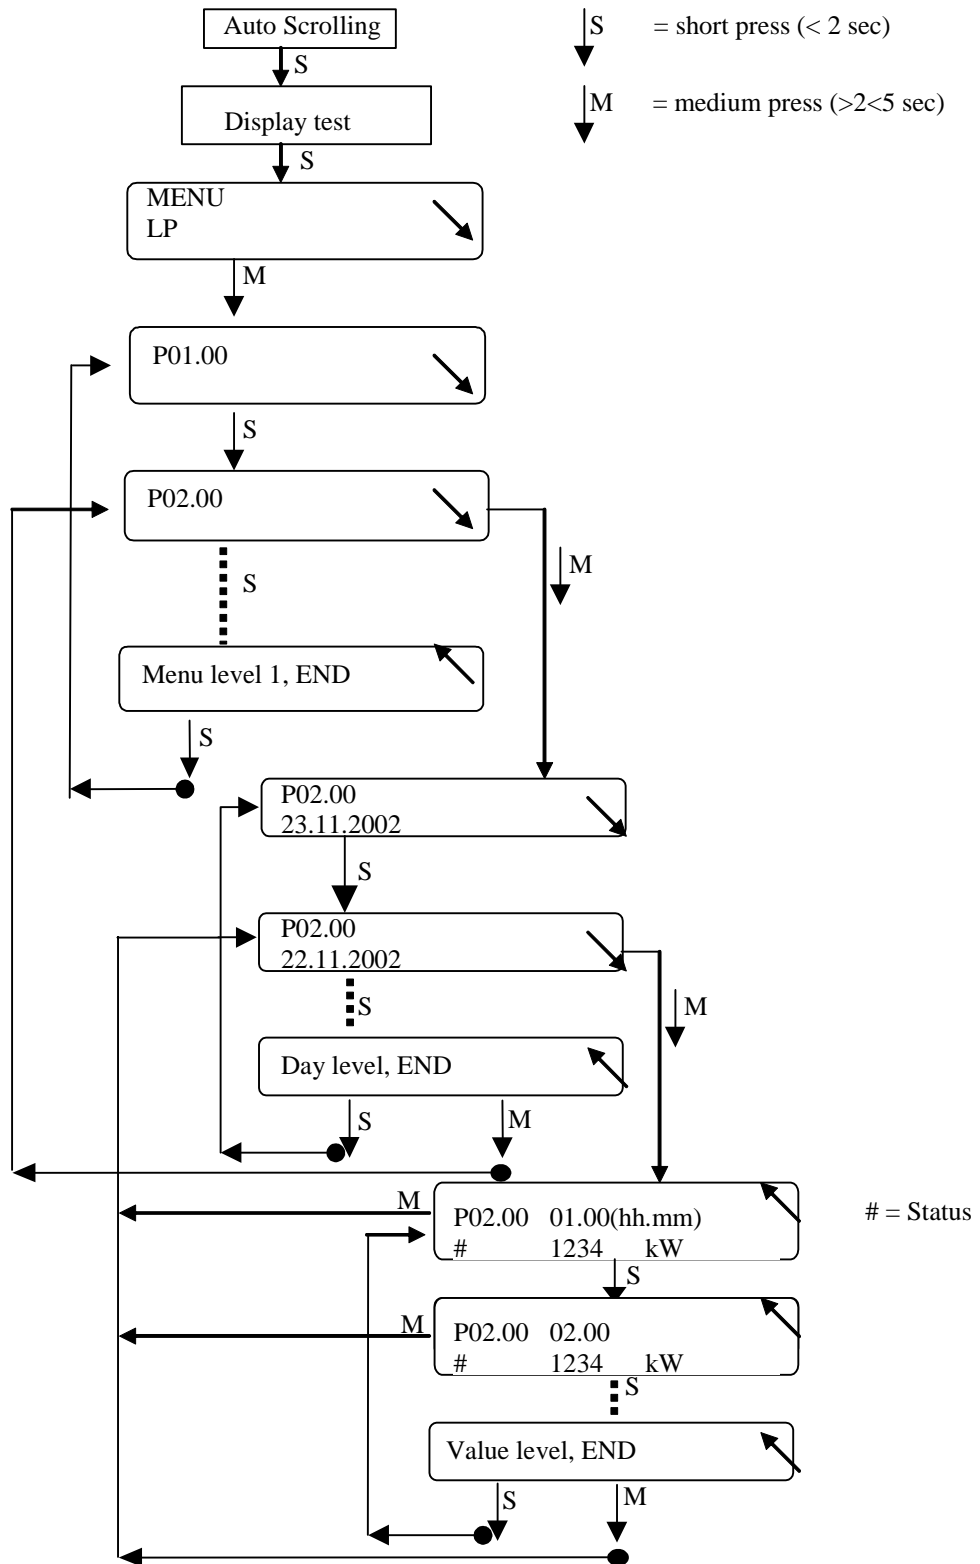

Figure 8. An example of manual scrolling: how to browse load profile values
- 2) Move from one menu item to another by making short presses on the black button. When you find the load profile indication (LP), make a medium press.
- 7) Load profile status is shown with value display so that first character in second row contains blinking status code, see *Figure 8*.